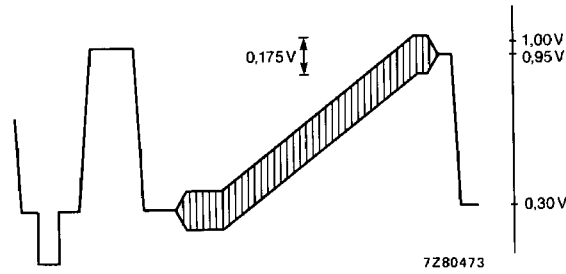

Fig. 3 Video output signal.
2. Signal with negative going sync, maximum white level 10% of the maximum sync amplitude (see Fig. 3).